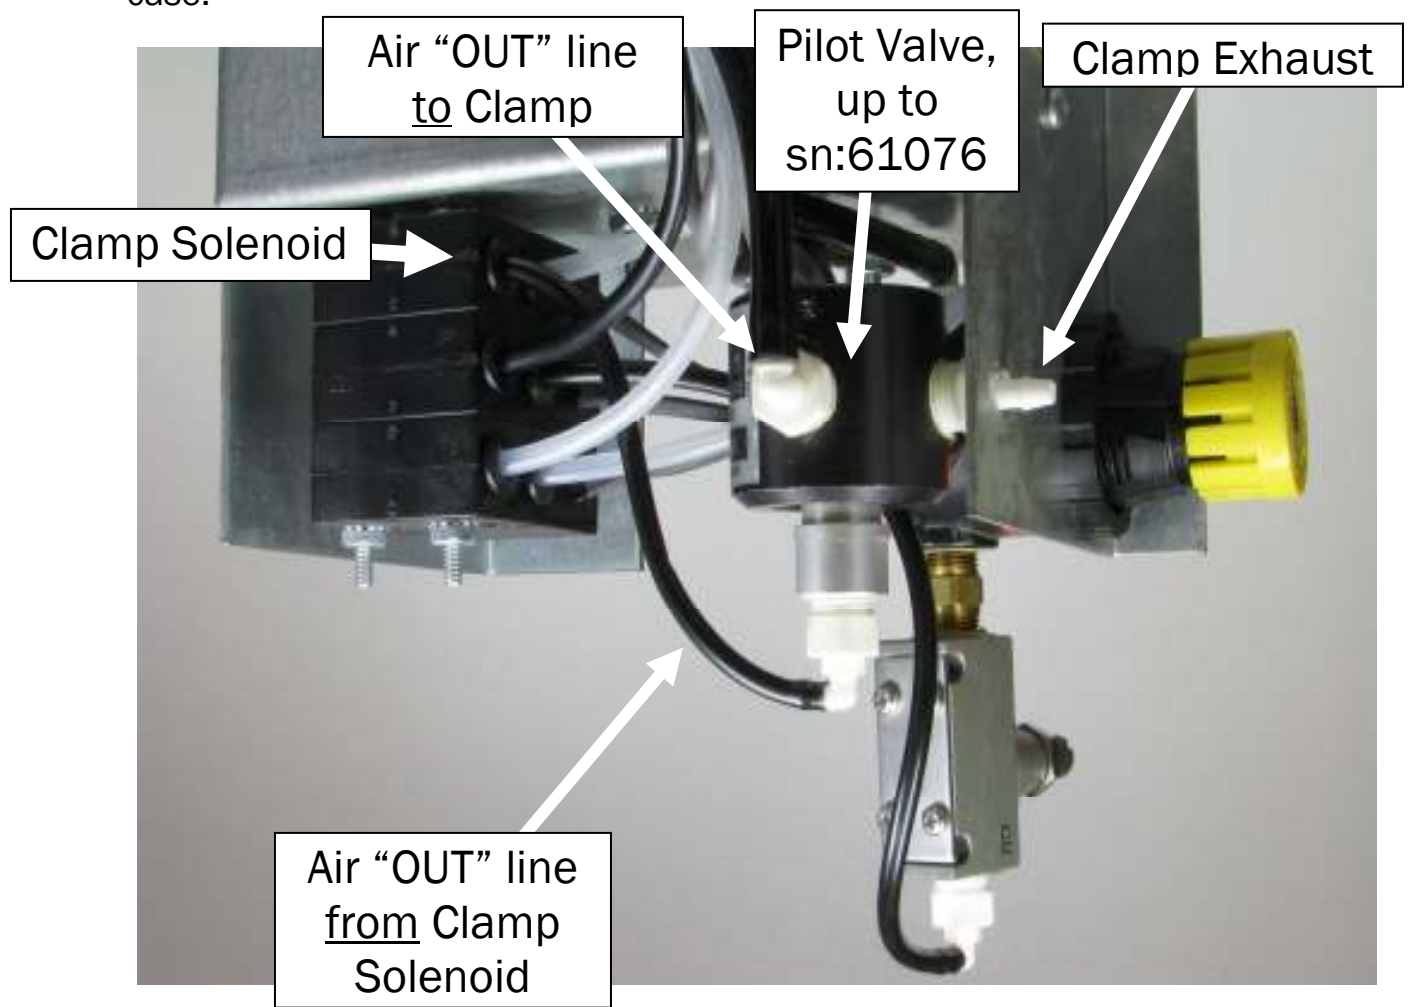

Figure 7
1. Open the rear door on the machine. The Exhaust port is the small, white plastic barb to the left of the regulator knob. **See fig. 7.**